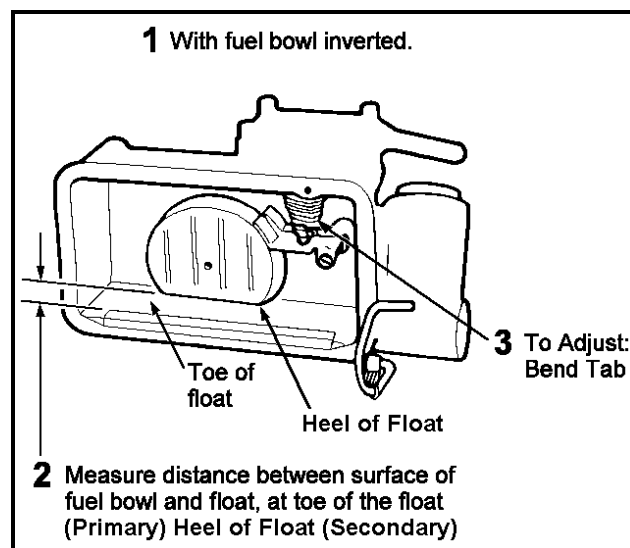

Figure 2
2. Remove the fuel bowl and hold it inverted at eye level. See Figure 2.